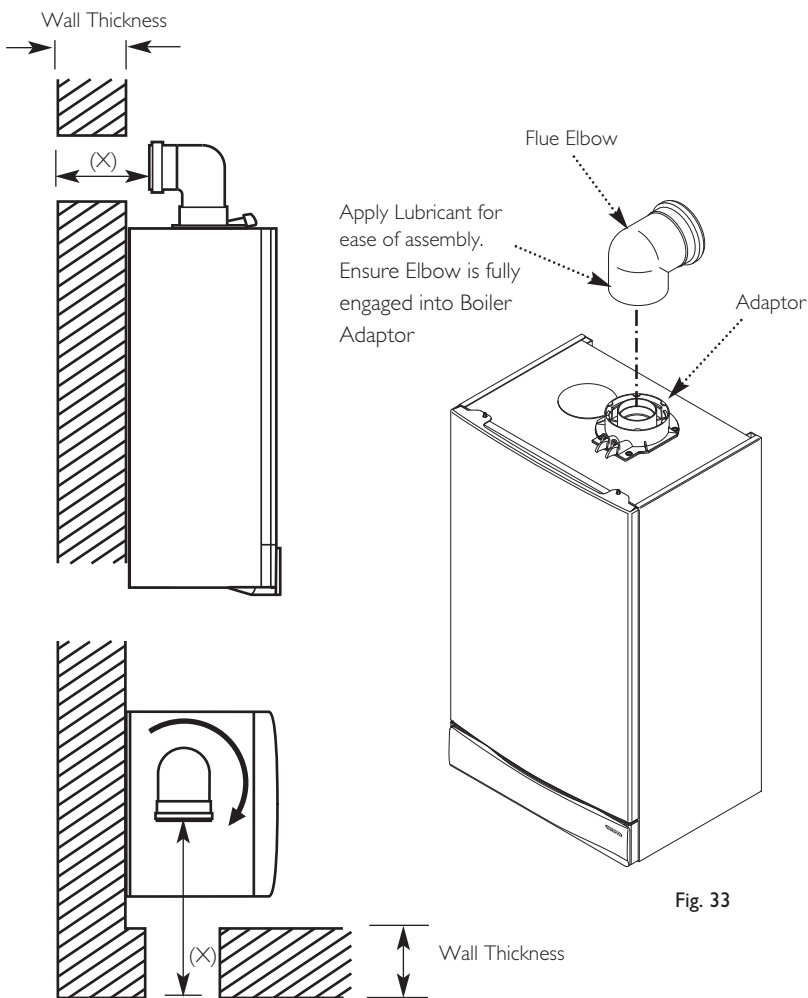

Fig. 33
2. Locate the flue elbow on the adaptor at the top of the boiler. Set the elbow to the required orientation (Fig. 33).